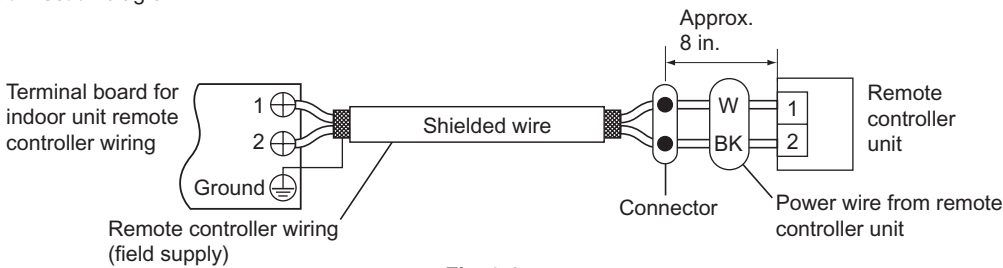

Fig. 2-1
- Use shielded wires for remote control wiring and ground the shield on indoor unit sides. (Fig. 2-1) Otherwise misoperation due to noise may occur.